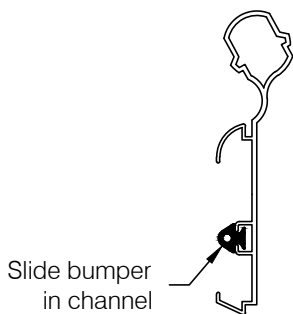

fig 5
- Step 6:** Cut flexible bumper cushion approximately 1/2" shorter than the aluminum retainer. Slide the cushion into the channel provided in the aluminum retainer, see **fig 5**.